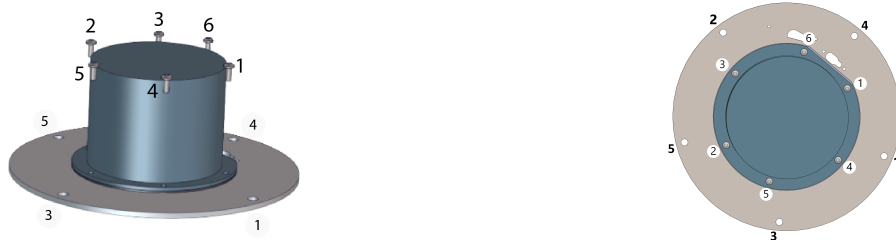

Figure 8 Order for tightening screws on burner and nuts on the lid
2. Install the cleaned burner and replacement gasket onto the supplied lid, ensuring that all screws are tightened evenly by repeating the tightening sequence a few times as shown in Figure 8.